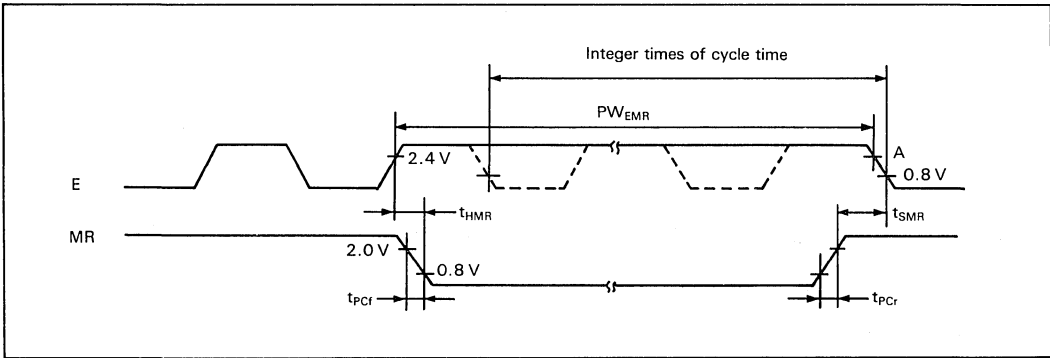

Figure III-10 Timing for Memory Ready and E Clock
**Question:** What do  $t_{HMR}$  (memory ready hold time) and  $t_{SMR}$  (memory ready set up time) mean in the timing for “memory ready” and E clock? See figure III-10.